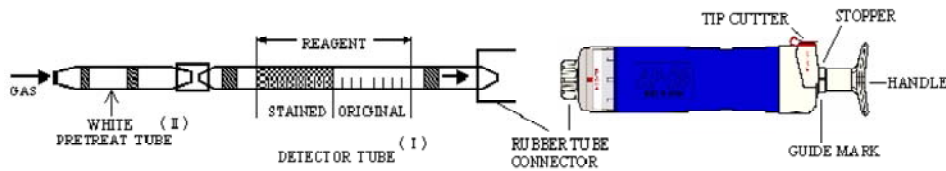

Fig.1
- ① Break both ends of the detector tube (I) and pretreat tube (II) by using the tip cutter, and connect each end of the detector tube (I) and pretreat tube (II) with rubber tube as shown in Fig. 1. (Arrow mark shall point to the pump.)
- ② Align the guide marks on the shaft and stopper of the aspirating pump.
- ③ Pull the pump handle at full stroke locked position and wait for 1 minute or until the completion of sampling is confirmed with the flow indicator of the pump (See descriptions about the flow indicator in the instruction manual of the pump).
- ④ On completion of sampling, read the scale at the maximum point of the stained layer.
- ⑤ When concentrations are below the scale range, multiple pump strokes can be used to determine these lower concentrations. Use 2, 3, 4, or 5 pump strokes, then divide the reading values by each number of the pump strokes in order to obtain the true concentration.
- ⑥ If the discolouration is over the scale, change the tube and carry out the following 1/2 pump strokes procedure:
- 1) Insert a new detector tube (I) and pretreat tube (II) into connecting with rubber tube, to the pump inlet.